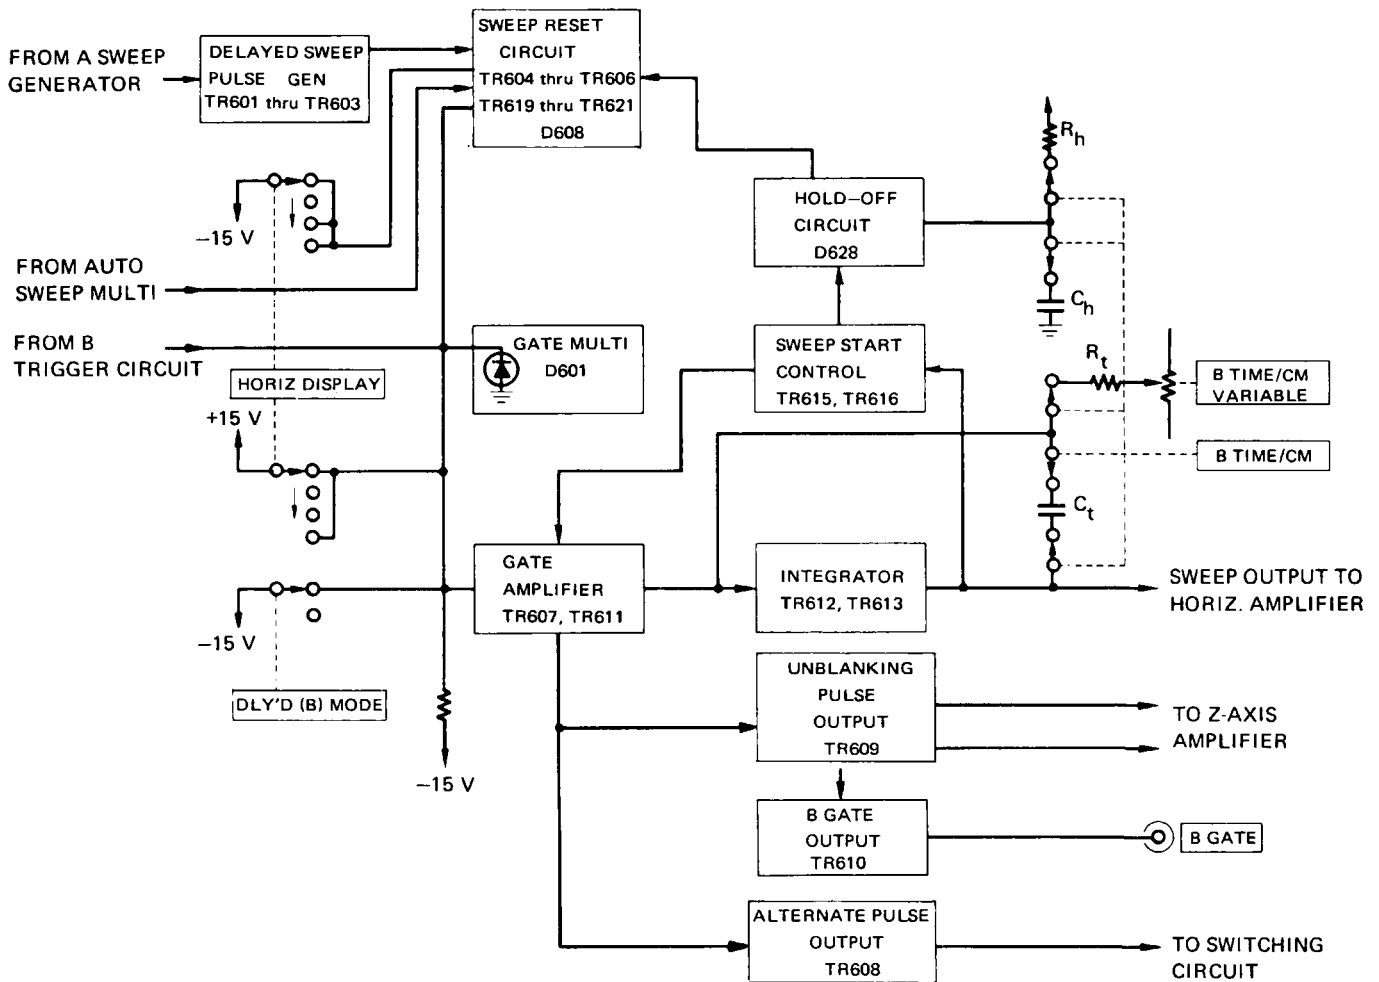

Figure 3-23 Block Diagram, B Sweep Generator
k. B SWEEP GENERATOR (Schematic 10). The B Sweep Generator is configured as shown in Figure 3-23. The basic concept of this circuit is similar to the A Sweep Generator circuit. The B Sweep Generator is actuated when the HORIZ DISPLAY switch is set to the A INTEN BY B or the DLY'D (B) position, to generate the following signals:
- (1) Sawtooth Sweep Waveform
- (2) Unblanking Signal
- (3) Gate Pulse
- (4) Alternate Signal